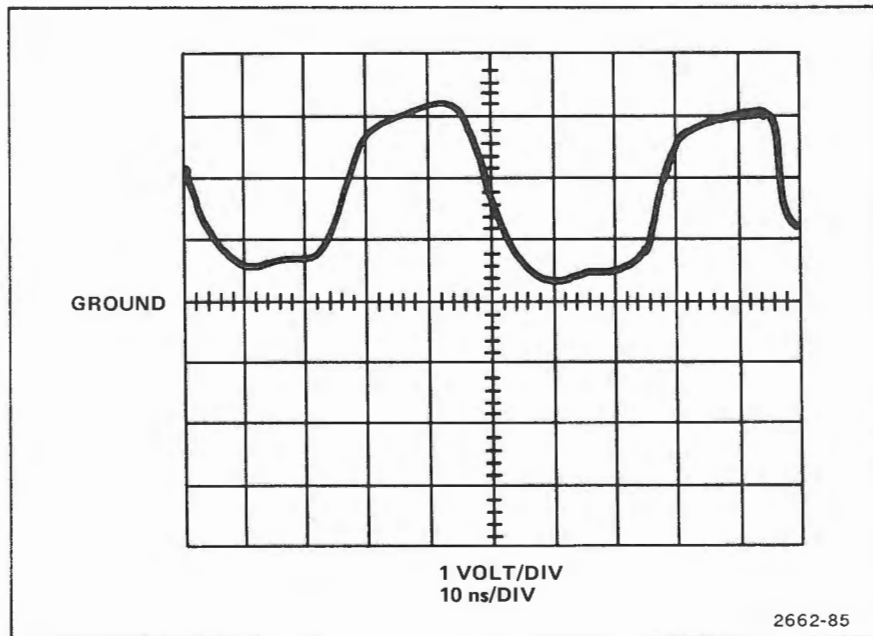

Figure 4-4. Test waveform for minimum external clock period.
h. Set Pulse Generator for output waveform as shown in Figure 4-4 as follows: